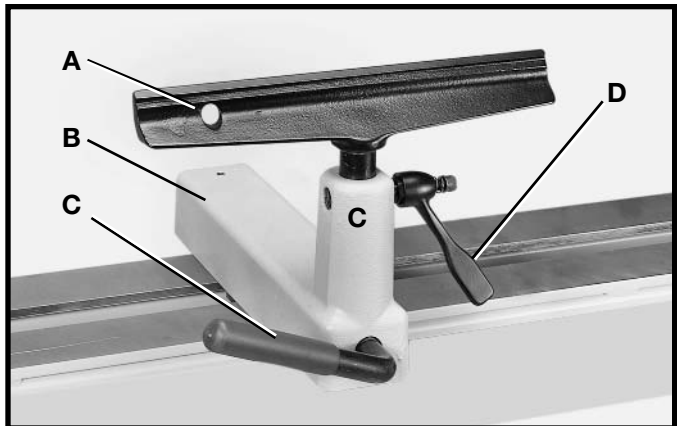

Fig. 16
The tool rest (A) and tool rest base (B) are shown in Fig. 16. To position the tool rest on the lathe bed, lift up clamp handle (C), move the tool rest base to the desired position and lock in place by pushing down on handle (C). To adjust the tool rest (A) for the correct height, loosen locking lever (D), move tool rest (A) up or down and tighten locking lever (D). **NOTE:** Locking lever (D) Fig. 16 can be positioned on the left or right side of the tool rest base (B). To reposition the tool rest locking lever (D), unscrew lever counterclockwise. A threaded hole is provided in the left side of tool rest base (B) to accept the locking lever (D) if desired. **NOTE:** Clamp tool rest firmly while operating the lathe.